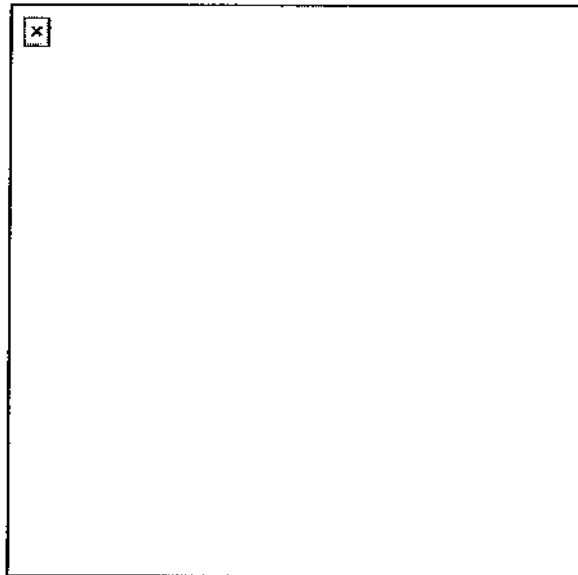

Figure 5. Camouflage of loopoles.
- (2) Camouflage the loopoles by knocking other holes in the wall to make it difficult for the enemy to know which hole the fire is coming from (Figure 5).